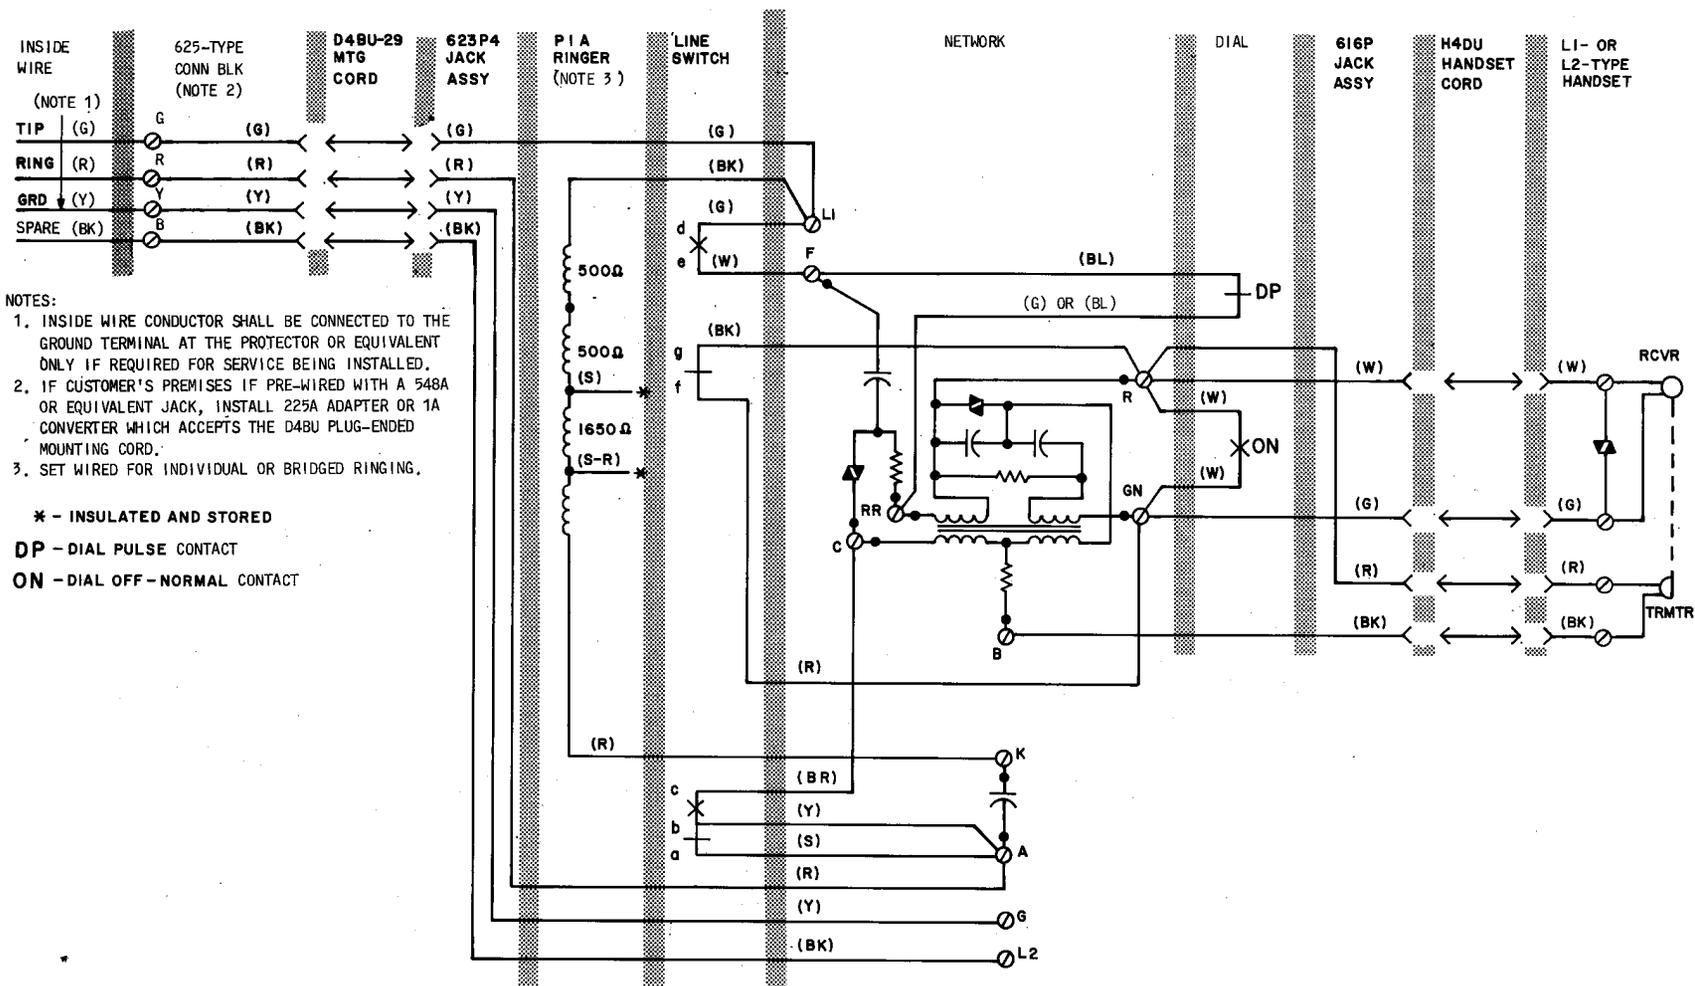

Fig. 3—940A (MD), 940B (MD), and 940C (MD) Telephone Set, Connections
3.02 The internal connections for the 940-type telephone sets nonkey system use are shown in Fig. 3 and 4.
3.03 Connections for 1A KTS do not require any telephone set modifications and are wired same as Fig. 3 and 4.